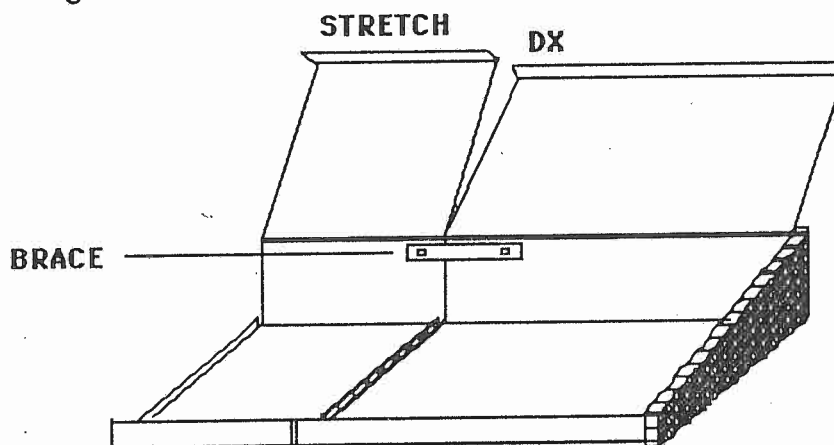

fig. 4
4. Next, temporarily remove left hinge nut on the DX chassis bottom and the right hinge nut on the Stretch chassis bottom. Position the rectangular metal BRACE as shown in figure 4 and re-fasten nuts into place.